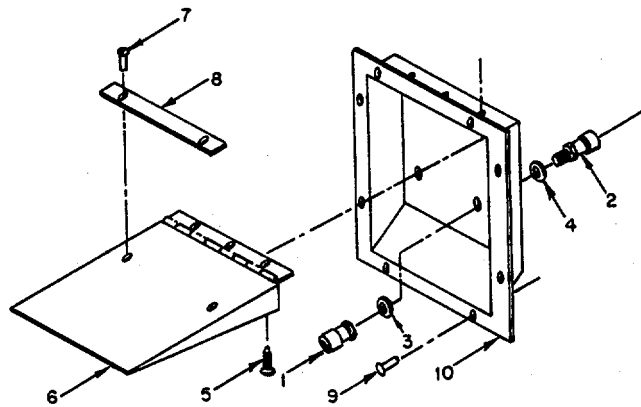

Figure 4-49. Telephone Binding Post Assembly
(1) Inspect binding post assembly hinged cover (6) on rear wall roadside for damage and ease of movement.
(2) Inspect binding posts (1) for freedom of movement and correct return to the spring loaded OUT position.
(3) Inspect binding post assembly for cracks and security of mounting.
b. Replace. (See Figure 4-49.) -
(1) Unscrew exterior posts (1) from interior post studs (2), and insulating washers (3 and 4) and remove posts and washers. Removal procedures are identical for each binding post assembly.
(2) Remove screws (5) and hinged cover (6).
(3) Remove rivets (7) of nomenclature plate (8) by drilling or chiseling off heads and remove plate.
(4) Remove rivets (9) by drilling or chiseling off heads.
(5) Remove RTV sealant and receptacle frame (10) from shelter wall.
(6) Apply RTV sealant (3, Appendix E) to frame lip and install receptacle frame (10) and secure with rivets (9).
(7) Install nomenclature plate (8) and secure with rivets (7).
(8) Install hinged cover (6) and secure with screws (5).
b. Replace. - Continued (See Figure 4-49.)
(9) Install interior binding posts (2) from inside through insulating washer (4), then through shelter wall.
(10) Thread exterior binding posts (1) onto interior post studs (2) using insulating washer (3) between shelter wall and exterior binding post. Modify a new interior post by cutting off the threaded stud. Locate center and drill a No. 21 size hole 0.5 in. (1.27 cm) deep. Tap hole with 10-32 U. N. F. bottom tap.
c. Repair. (See Figure 4-49.)